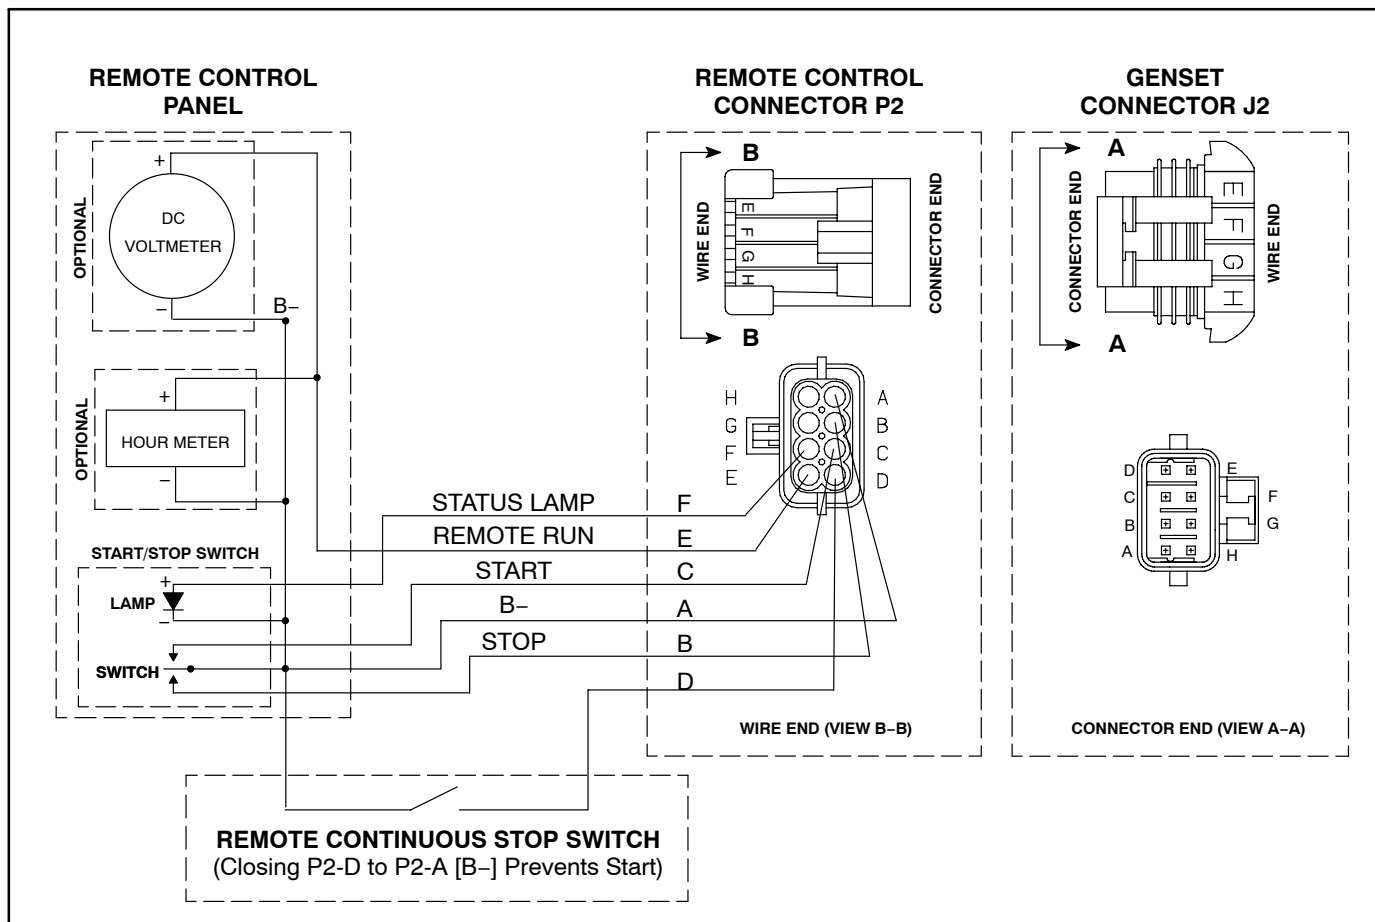

FIGURE 5-6. SCHEMATIC OF TYPICAL REMOTE CONTROL CONNECTIONS
2. Refer to Figure 5-6 to fabricate the remote control panel and/or wiring harness when not using the accessories available from Onan. Mark the remote control end of each lead to identify the connector pin number at the genset. Use insulated 18 AWG copper conductors for distances up to 30 feet (9 meters) and heavier gauge conductors for greater distances. Protect the wiring with full-length flexible sheathing.
3. A “continuous stop” switch located in the cab and/or boom bucket can be installed in the remote control circuit to prevent unauthorized operation of the genset by not allowing cranking (Figure 5-6).